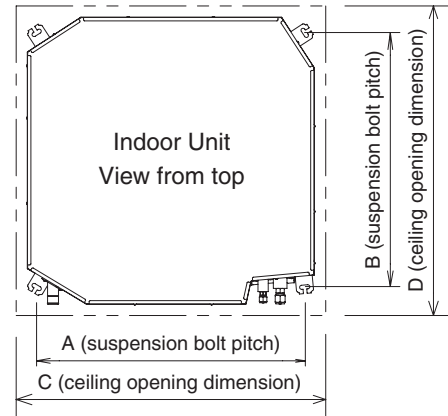

Fig. 1-120
- (2) Follow Fig. 1-120 and Table 1-13 to make the holes in the ceiling.